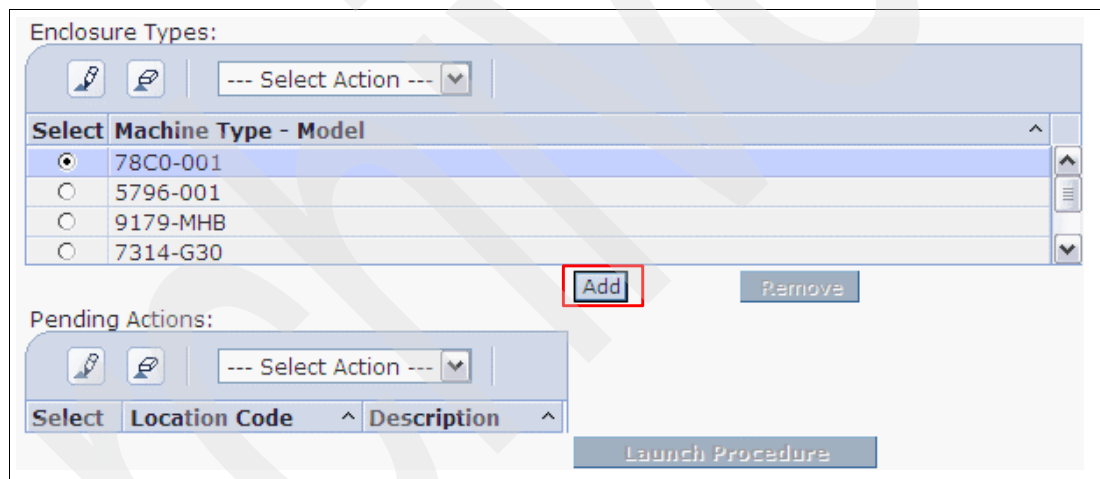

Figure 6-7 Step to select an enclosure type to add
3. Select a machine type - model to add. Click **add** (refer to Figure 6-7).